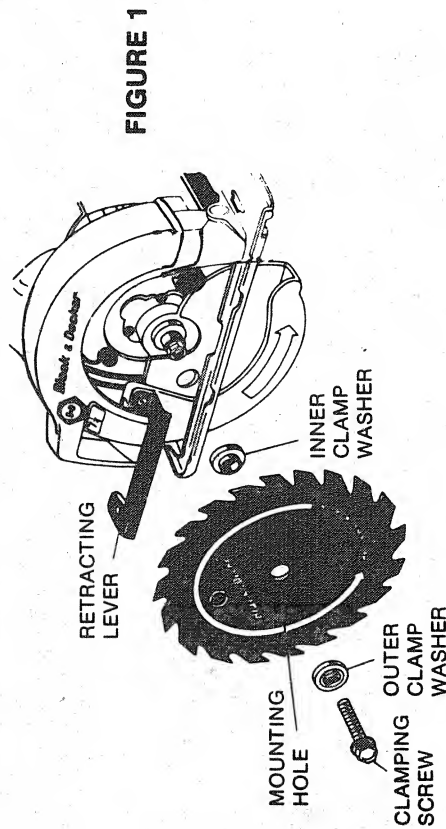

FIGURE 1
2. To remove blade clamping screw (Fig. 1):